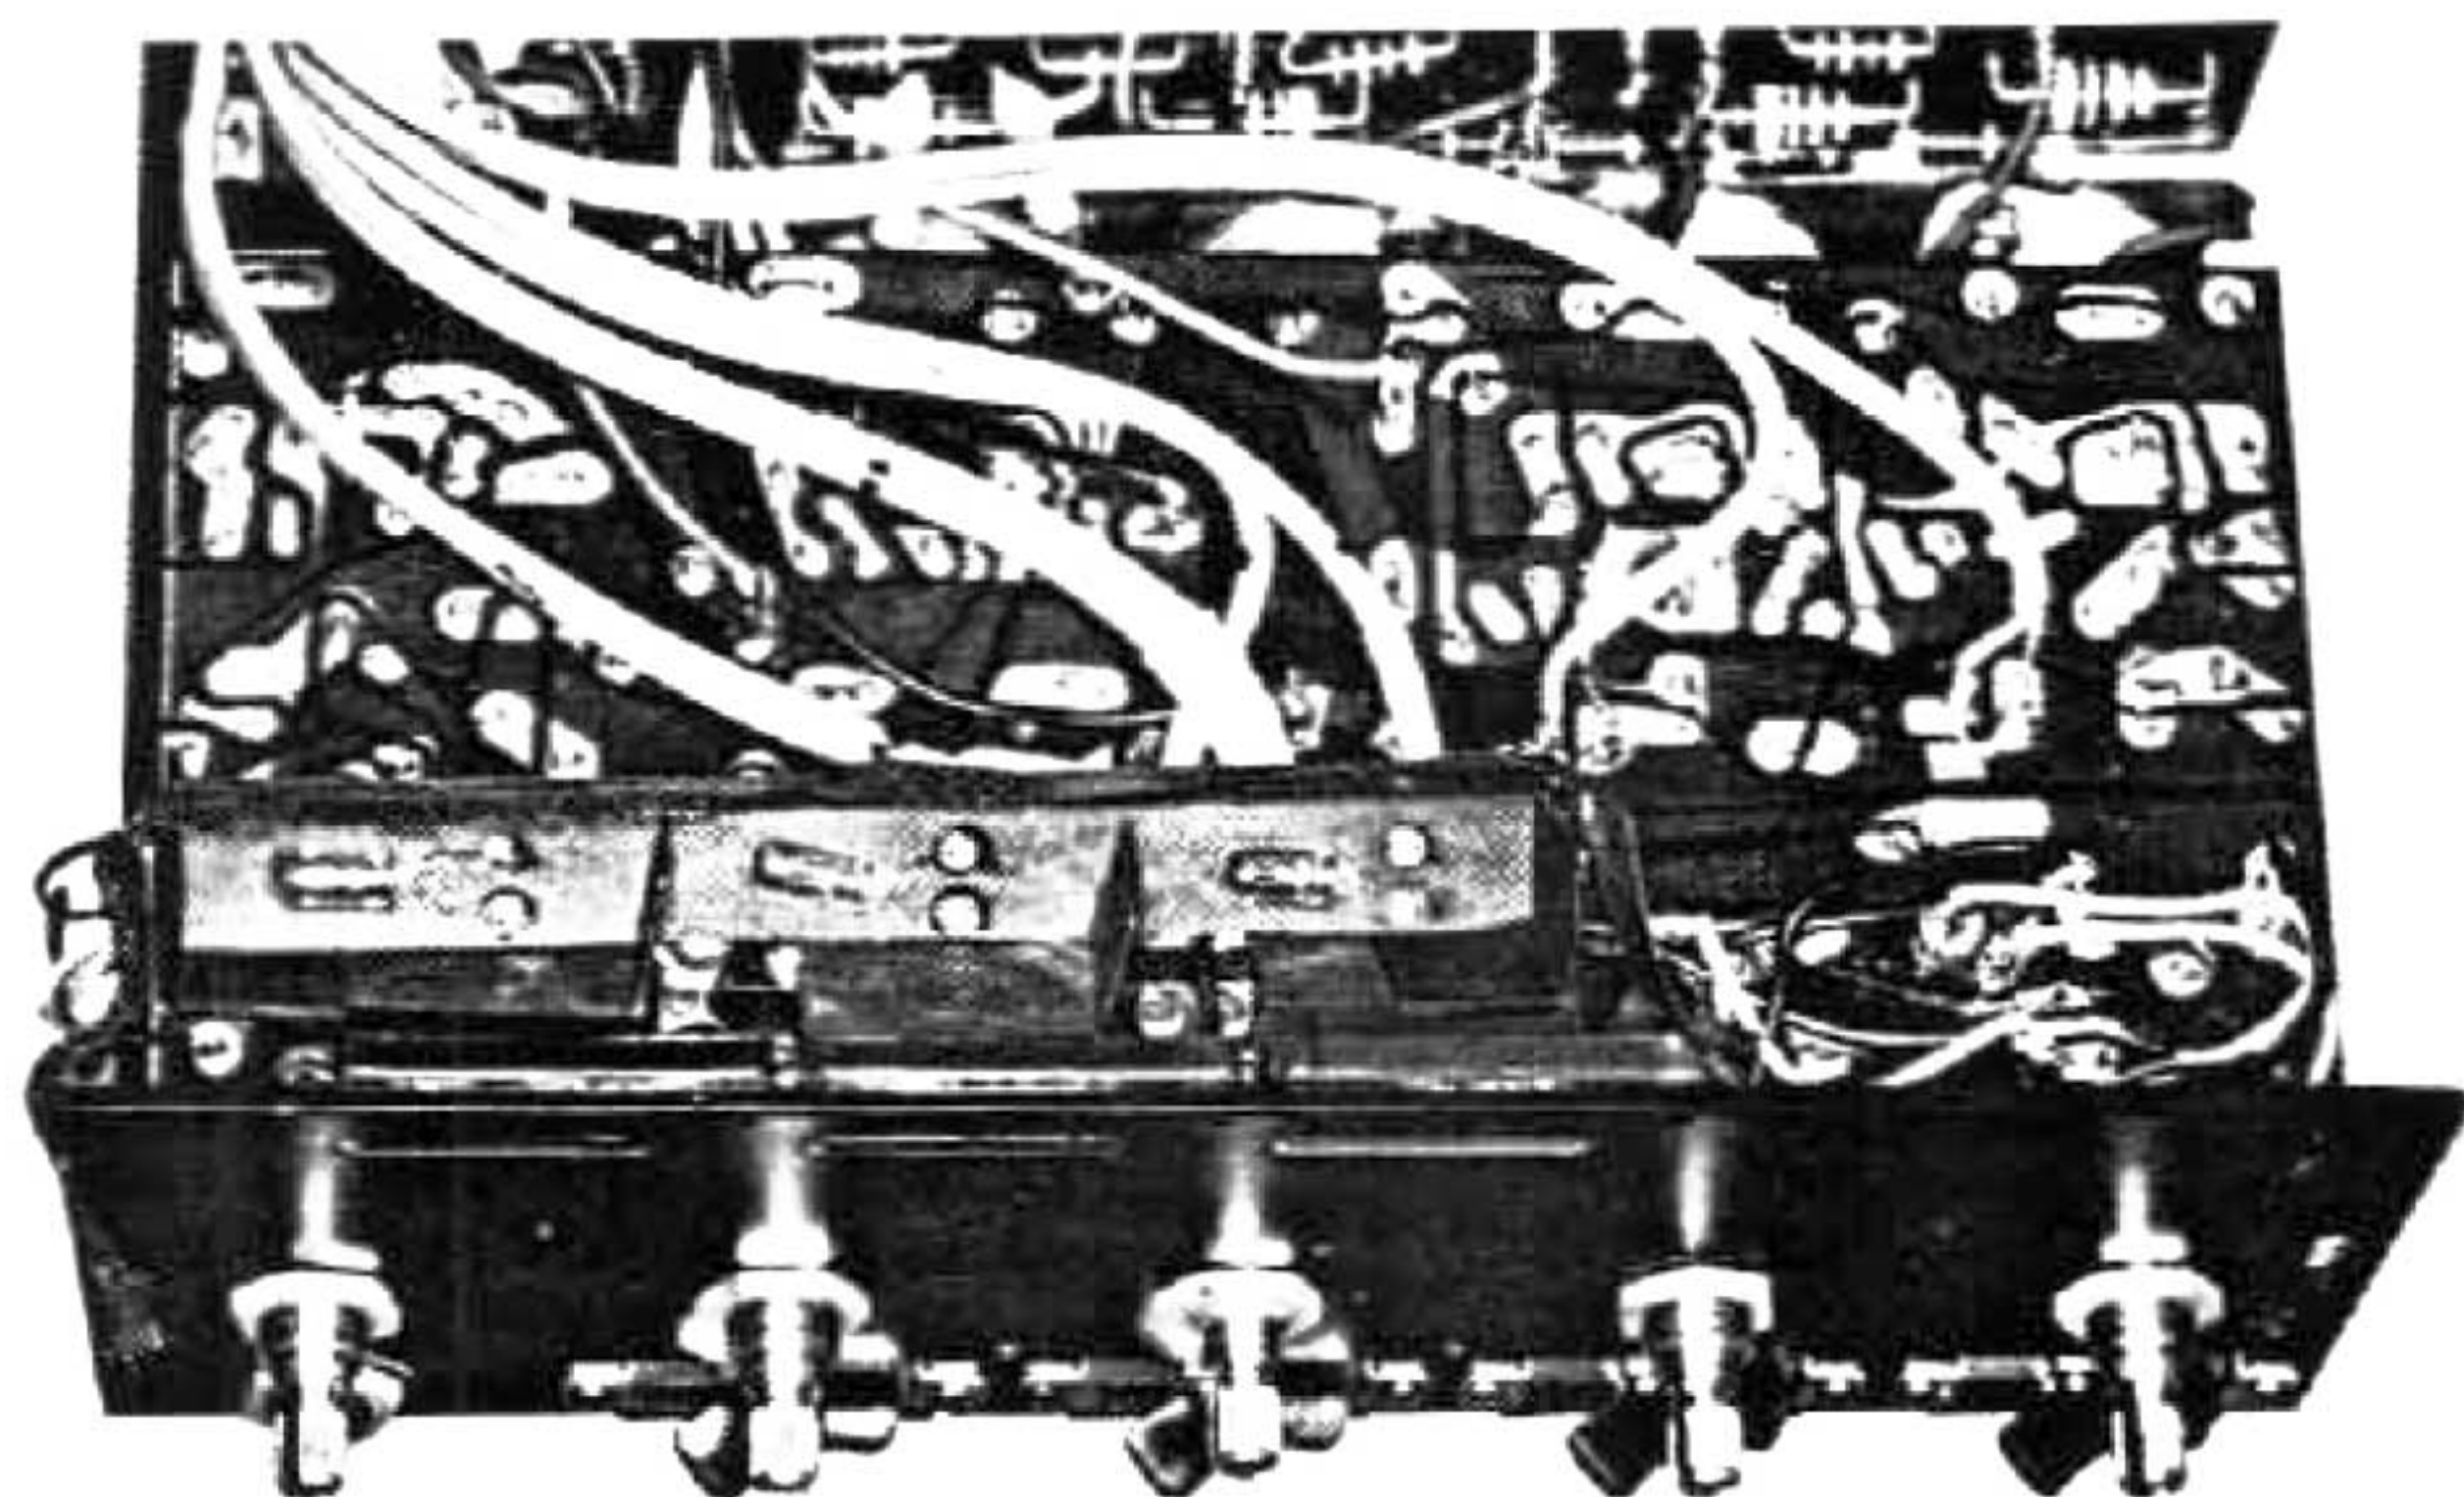

FIGURE 4
3. Bend shield back to gain access to bulbs. (See Fig. 4)